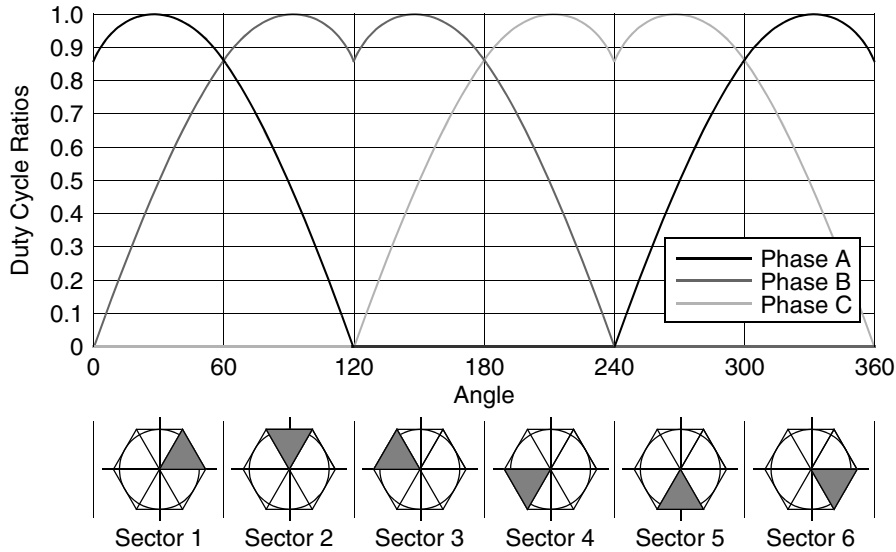

Figure 3. Space Vector Modulation with O_{000} Nulls Technique
- **Space Vector Modulation With O_{000} Nulls (SVM_U0N)** - The input parameters are orthogonal components of an applied motor voltage vector alpha and beta in the range (-1,1). **Figure 3** depicts the modulation technique.